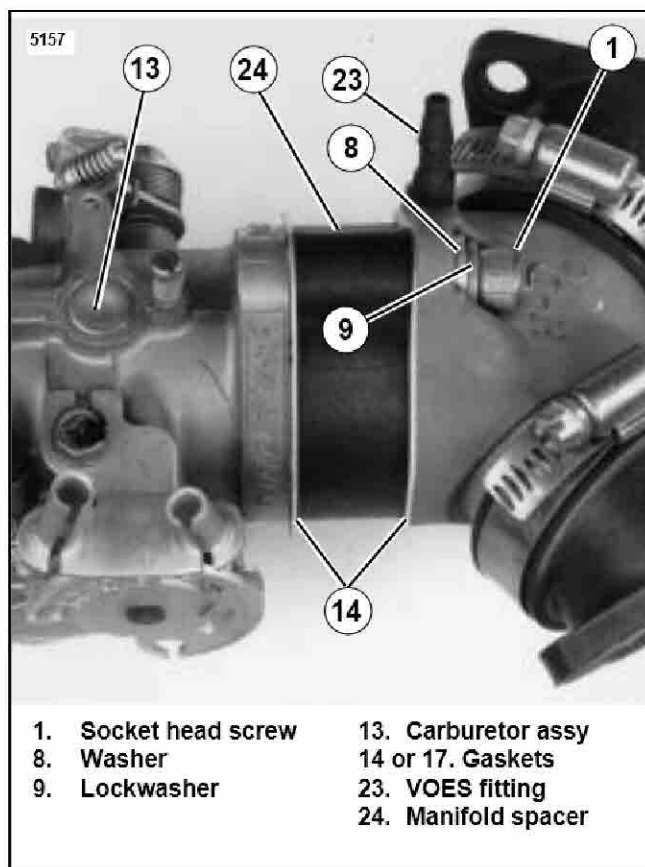
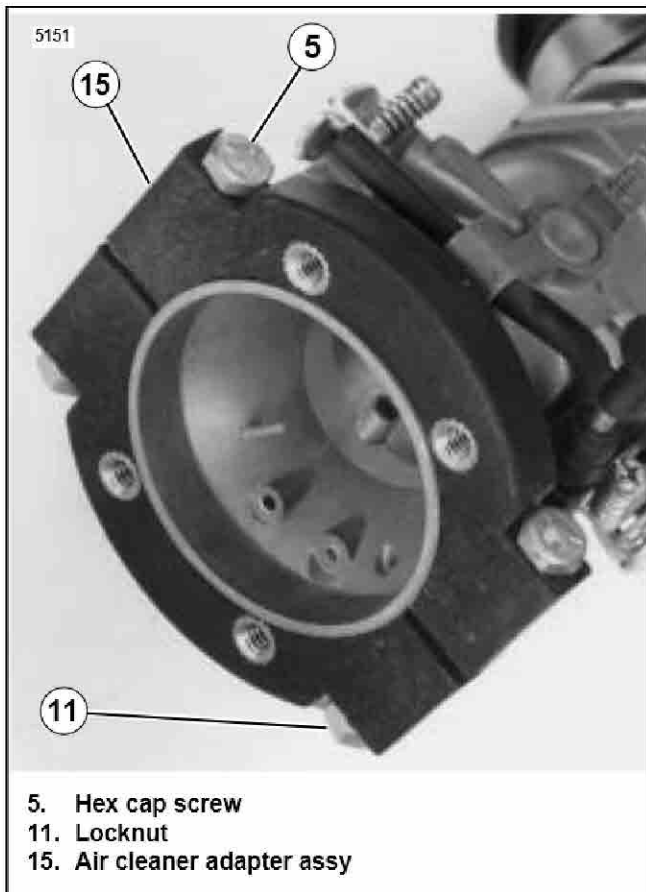

Figure 2. Manifold, Spacer, Gasket and Carburetor
Figure 3. Air Cleaner Adapter and Carburetor
1. See Figure 2. Make VOES connection:
- 1b. Apply Loctite pipe sealant with Teflon to threads on VOES fitting (23) and install fitting.
3. See Figure 2 and Service Parts Illustration. Assemble gaskets (14 or 17), manifold spacer (24) and carburetor assembly (13) to manifold using long allen head bolts (1), washers (8) and lockwashers (9). Tighten bolts.
- 4a. Install the air cleaner support brackets (21) on the cylinder heads, using the hex head bolts (3), washers (8) and lockwashers (9). Do not tighten bolts at this time.
- 4b. See Figure 3. Install the air cleaner adapter (15) on the carburetor throat. Do not tighten bolts (5) or nuts (11) at this time.
- 4c. Place the carburetor gasket (16) and the backplate (20) in position on the carburetor. Use two button head screws (2), diagonally opposite each other and snug the backplate up to the carburetor. Align the backplate with the air cleaner support brackets. When the backplate and brackets are aligned, the carburetor is aligned.
5. Remove the two button head screws (2), backplate (20) and carburetor gasket (16). Be sure you don't move the carburetor.